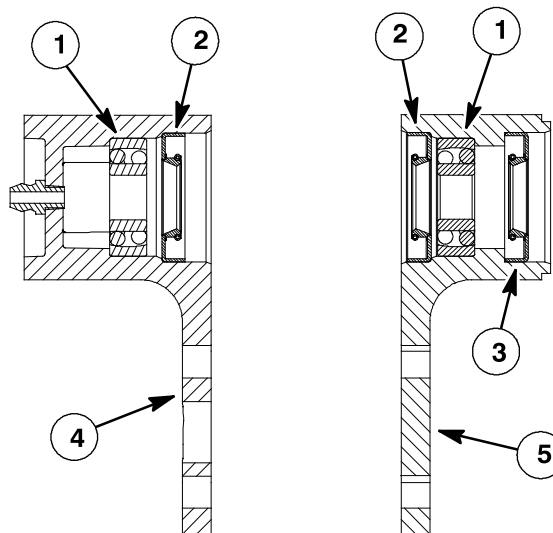

Figure 197
1. If seals or bearings were removed from brush bearing housings, install new components noting proper orientation as shown in Figure 197.
- C. Install grease seals so that seal lips are positioned toward the brush location as shown in Figure 197. Press seals into housing so that seal contacts bore shoulder.